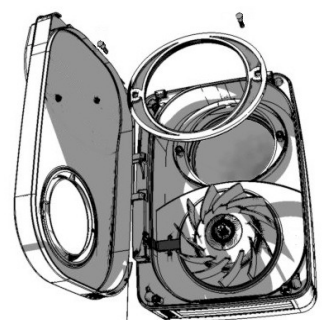

Figure 10.
8. Remove screws and Heat Exchanger Retaining Clamp kit from bag in carton - Figure 10.